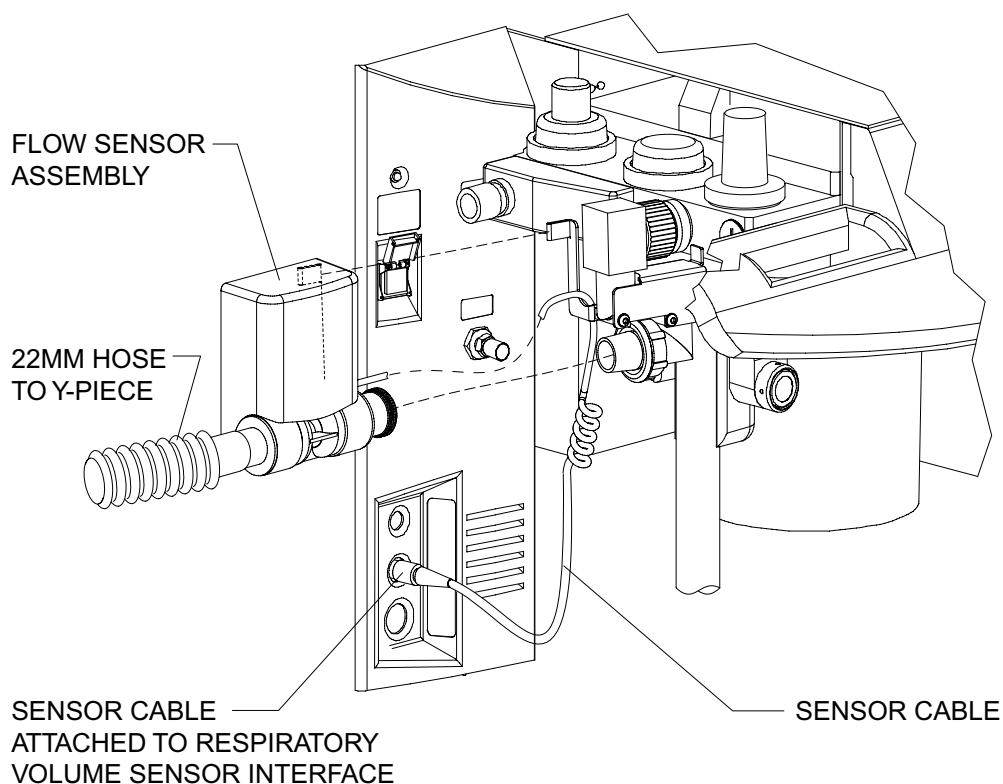

Figure 10-13. Installing the Flow Sensor
10. Align the tab on the mounting adapter with the corresponding slot in the side of the flow sensor, and connect the flow sensor assembly to the mounting adapter. Tighten the retaining ring (hand-tighten only). Refer to Figure 10-13 on page 10-21.
3. Align the tab on the mounting adapter with the corresponding slot in the side of the flow sensor, and connect the flow sensor assembly to the mounting adapter. Tighten the retaining ring (hand-tighten only). See Figure 10-13.